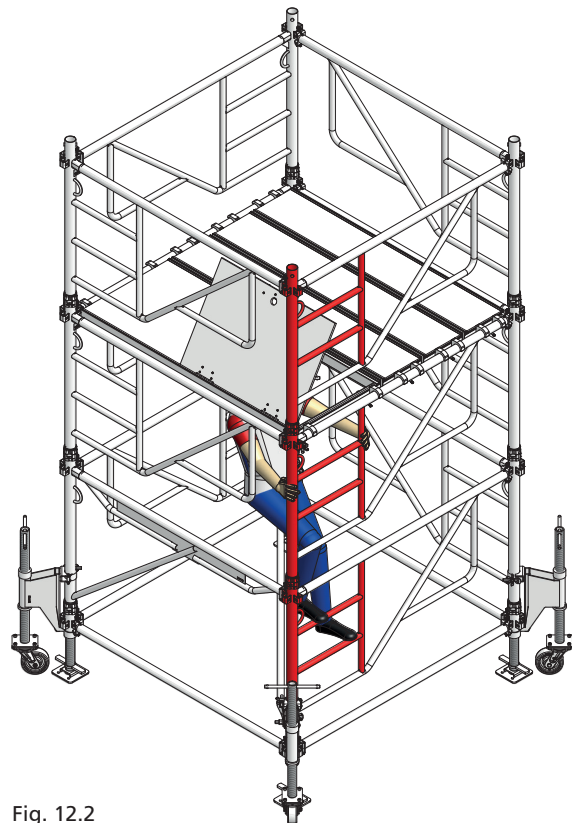

Fig. 12.2
18. Climb up to level 2 using the ladder integrated in frame MT 100 (Fig.12.2).
Always suspend the scaffold platform 170/68 with access hatch in a way that the access hatch opens to frame 100 MT and you can climb up or down the ladder that is integrated in the frame (Fig. 12.2 on page MT-12).